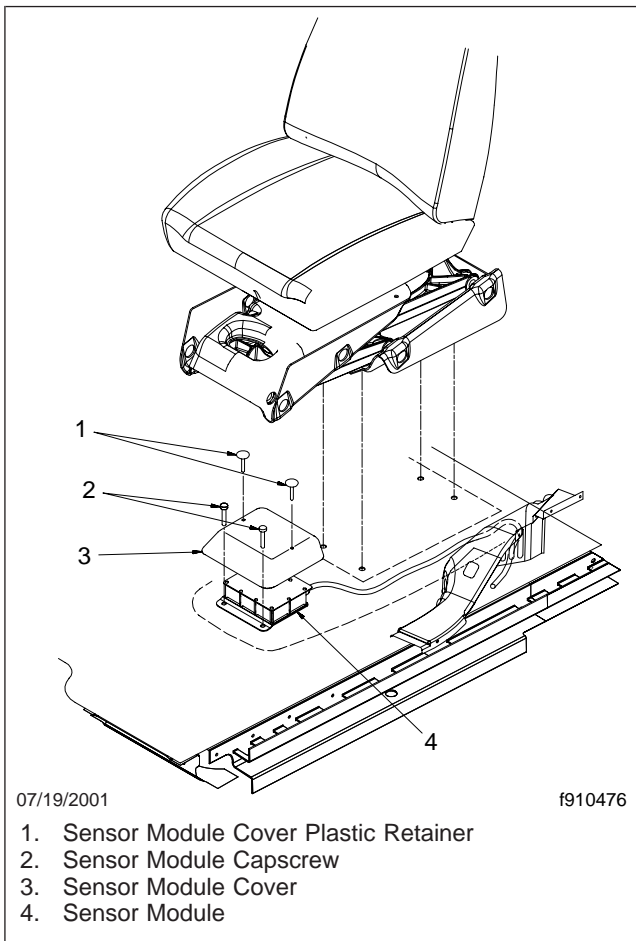

Fig. 1, EzyRider Seat With Air Bag Sensor Module
- On vehicles with an EzyRider seat, remove the capscrews that attach the sensor module to the cab floor. See Fig. 1.